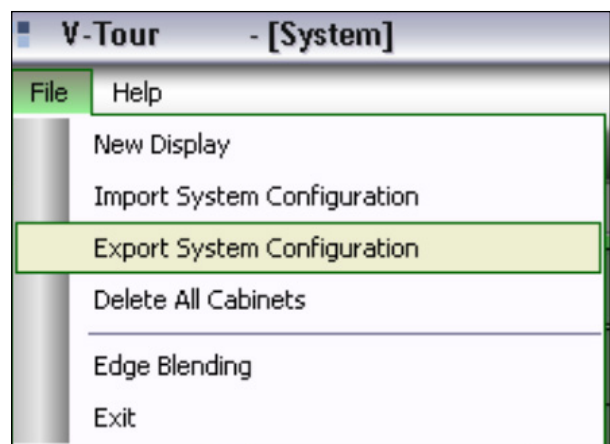

Figure 19: Export System Configuration Menu
1. Select **Export System Configuration** from the **File** menu. Refer to **Figure 19**.